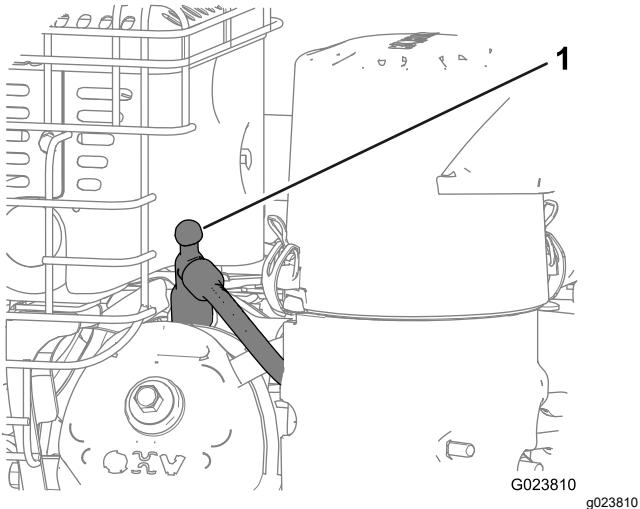

Figure 22
- Disconnect the spark-plug wire from the spark plug and keep the wire away from the plug, to prevent accidental starting (Figure 22).